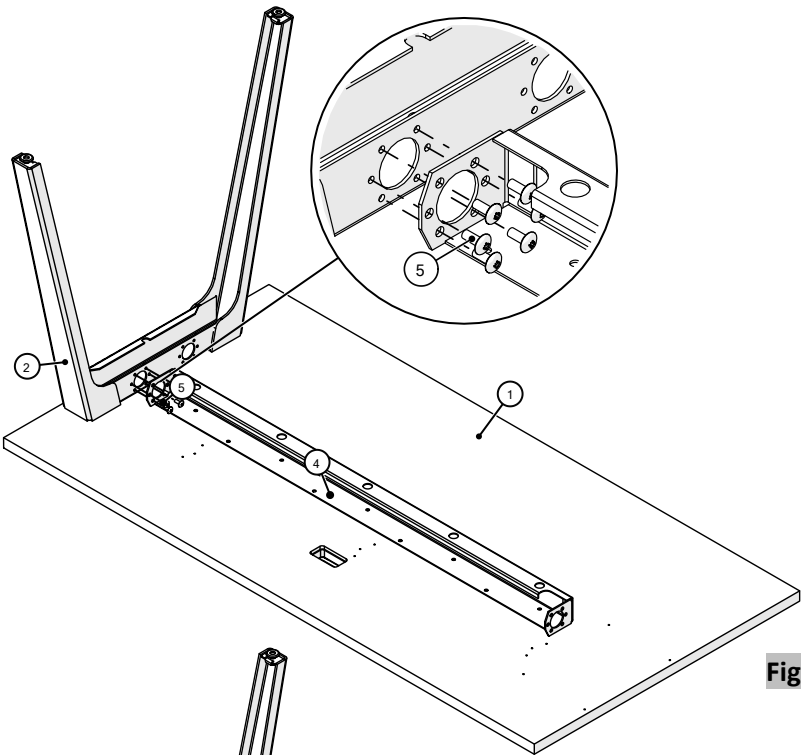

Figure 3
4. Attach the table support beam to A-Leg using the (6) 1/4-20 x 5/8", Truss Quad Screw, (Figure 3).